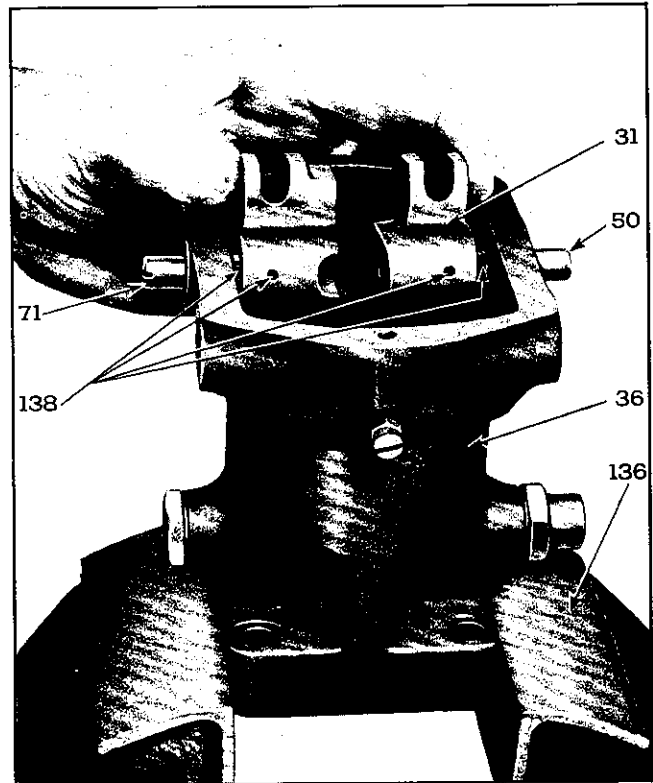
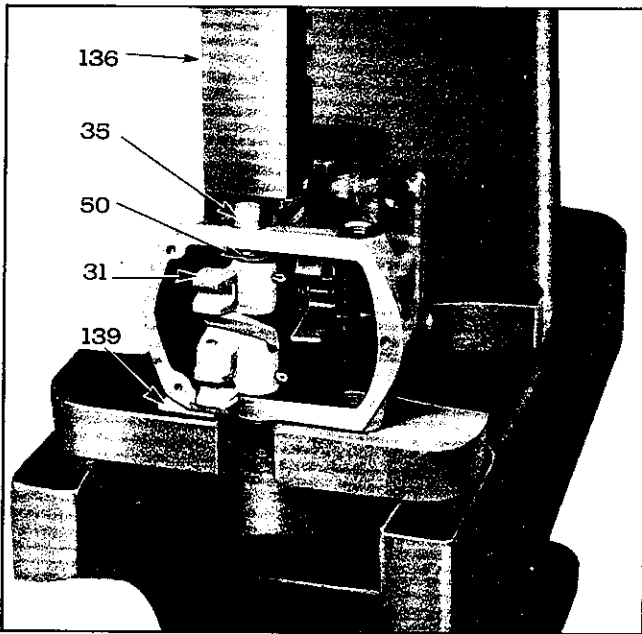

Fig. 44—Correct Relation of Holes in Terminal Shafts to Holes in Terminal Lever.
Fig. 45—Replacing Terminal Sleeve in Governor Case.
3. Moisten surface with oil and drop servo piston (30) into place, cone end down.
- (a) Place the terminal lever (31) in the governor case with convex bearing surface for servo piston next to piston and holes for terminal shafts in alignment with holes in case.
- (b) Place the short terminal shaft (50) in left-hand opening and long terminal shaft (71) in right-hand opening—as viewed from front side of case where serial number plate is attached—with holes of cotter pins in shafts in alignment with holes in terminal lever, as shown in Fig. 44.
- (c) Slide the serrated ends of the two terminal shafts into the terminal lever (31) and install the two cotter pins (41). Spread cotter pins.
- (d) Drive a welch plug (73) into outer end of each terminal sleeve (35).
- (e) Place the governor case on bed of arbor press as shown in Fig. 45 and press terminal sleeve (35) and welch plug (73) assembly into case and over outer end of shaft. Install terminal sleeve and welch plug assembly in opposite side of case and over shaft in the same manner and tight against case.
NOTE: When pressing terminal sleeve into case, be sure case is flat on bed of press. Line up with shim as shown in Fig. 45.